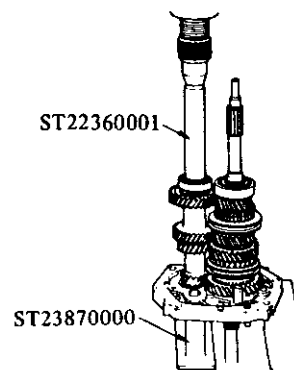

Fig. MT-37 Installing countershaft front bearing
5. Press countershaft front bearing onto countershaft with Drift C ST22360001. See Figure MT-37.